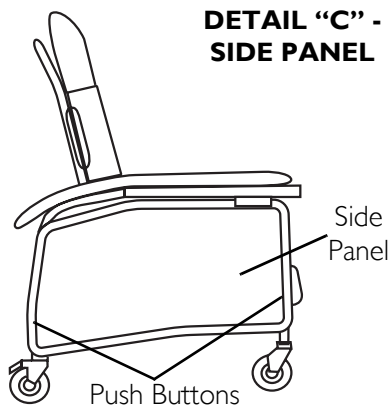

FIGURE 3.2 Assembling the Recliner - Assembling Model IH6077A
NOTE: For this procedure, refer to FIGURE 3.2 on page 14.
4. Position the back assembly over the seat frame as shown in Detail "A" in FIGURE 3.2 on page 14.
5. Align the holes in the back assembly brackets with the holes in the seat frame as shown in Detail "A" in FIGURE 3.2 on page 14.
6. Insert a clevis pin through back assembly bracket and seat frame and secure with a retaining ring as shown in Detail "A" in FIGURE 3.2 on page 14. Repeat for opposite side.